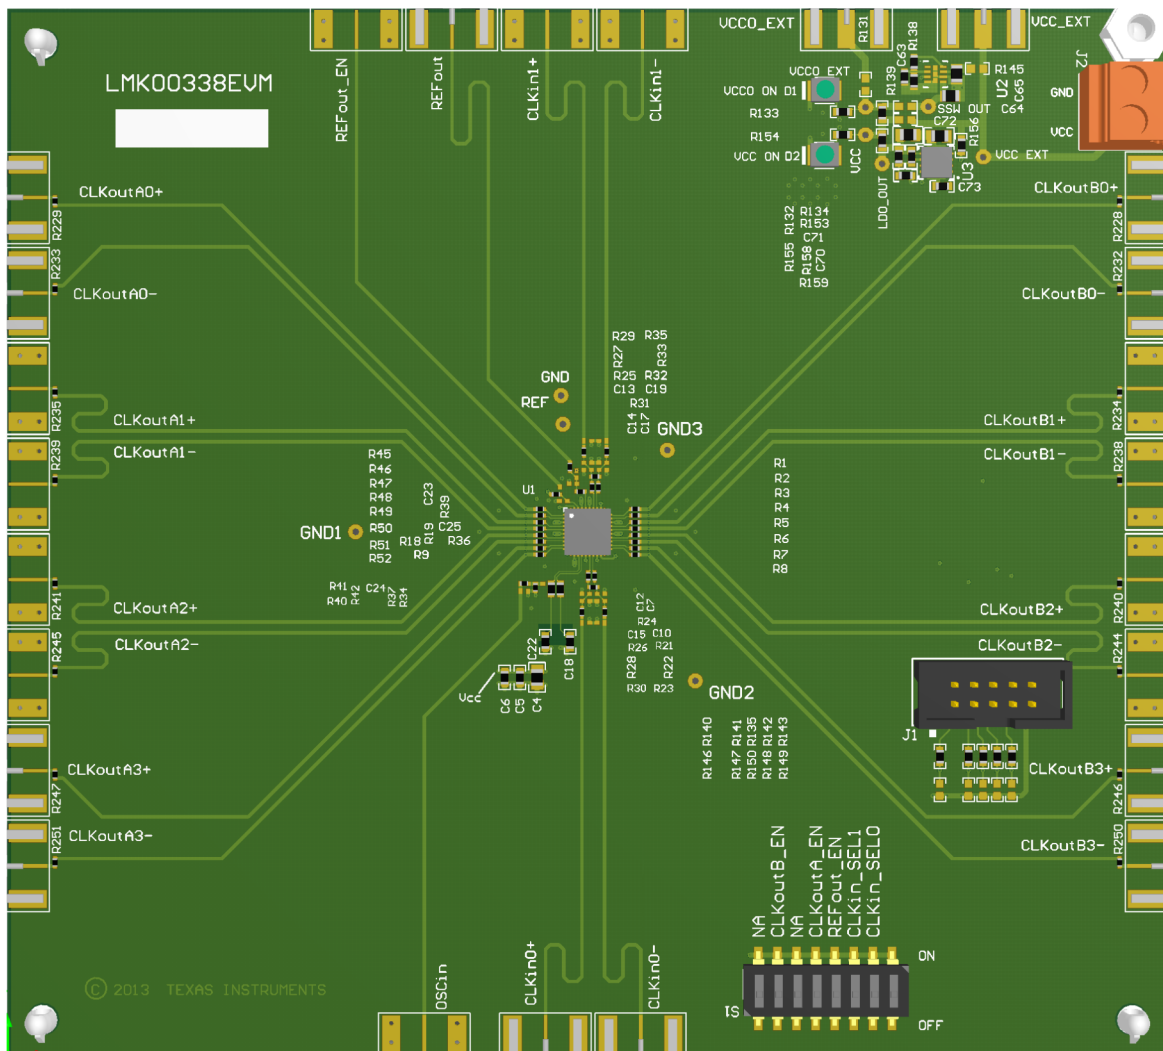

Figure 22. LMK00334 Layout Example
- For DC coupled operation of an HCSL driver, terminate with 50 Ω to ground near the driver output as shown in Figure 22.